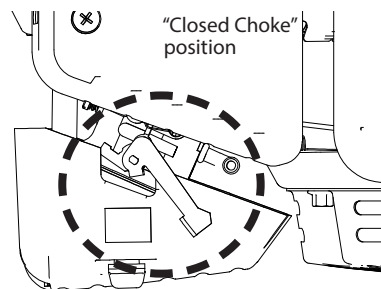

Figure 5
- If the engine is cold or the ambient temperature is low, close the choke lever fully. **SEE FIGURE 5.**